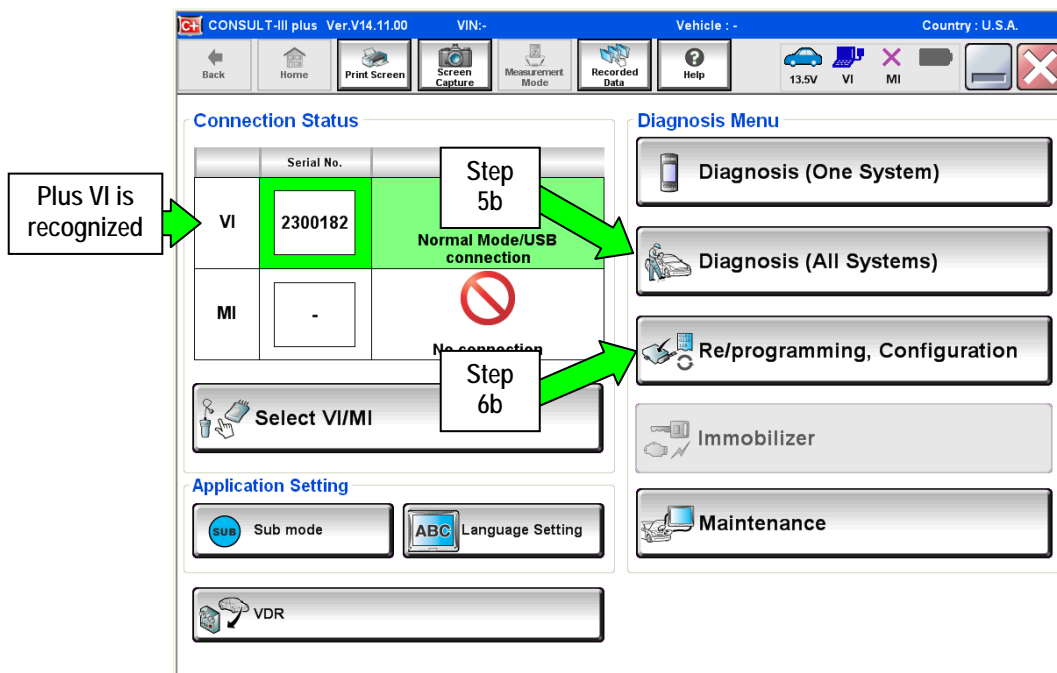

Figure 1
- Select the **Home** button and then **YES** to return to the screen shown in Figure 1.